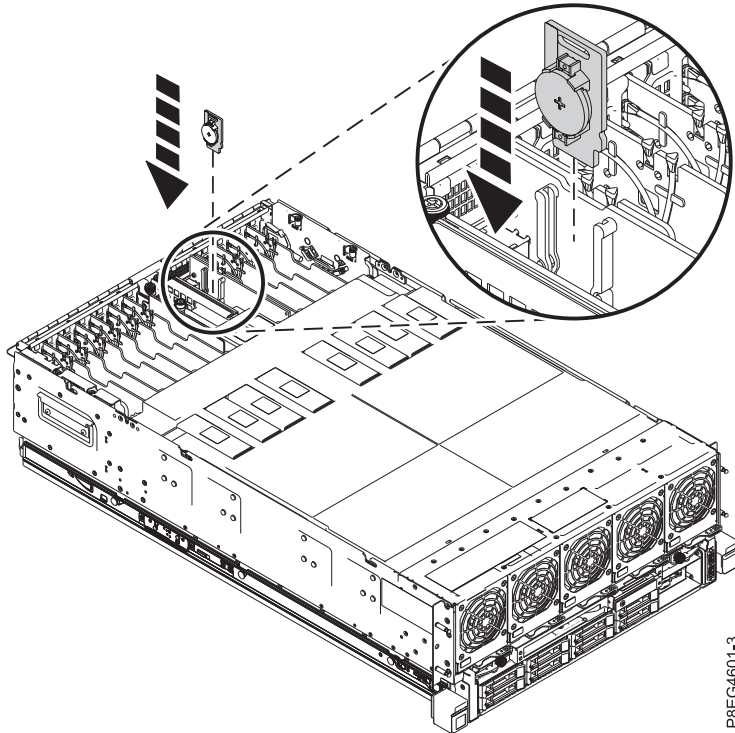

Figure 3. Inserting the time-of-day battery card in slot P1-C5-C1
2. Insert the time-of-day battery card into its slot in location P1-C5-C1 on the service processor card as shown in Figure 3 on page 5.